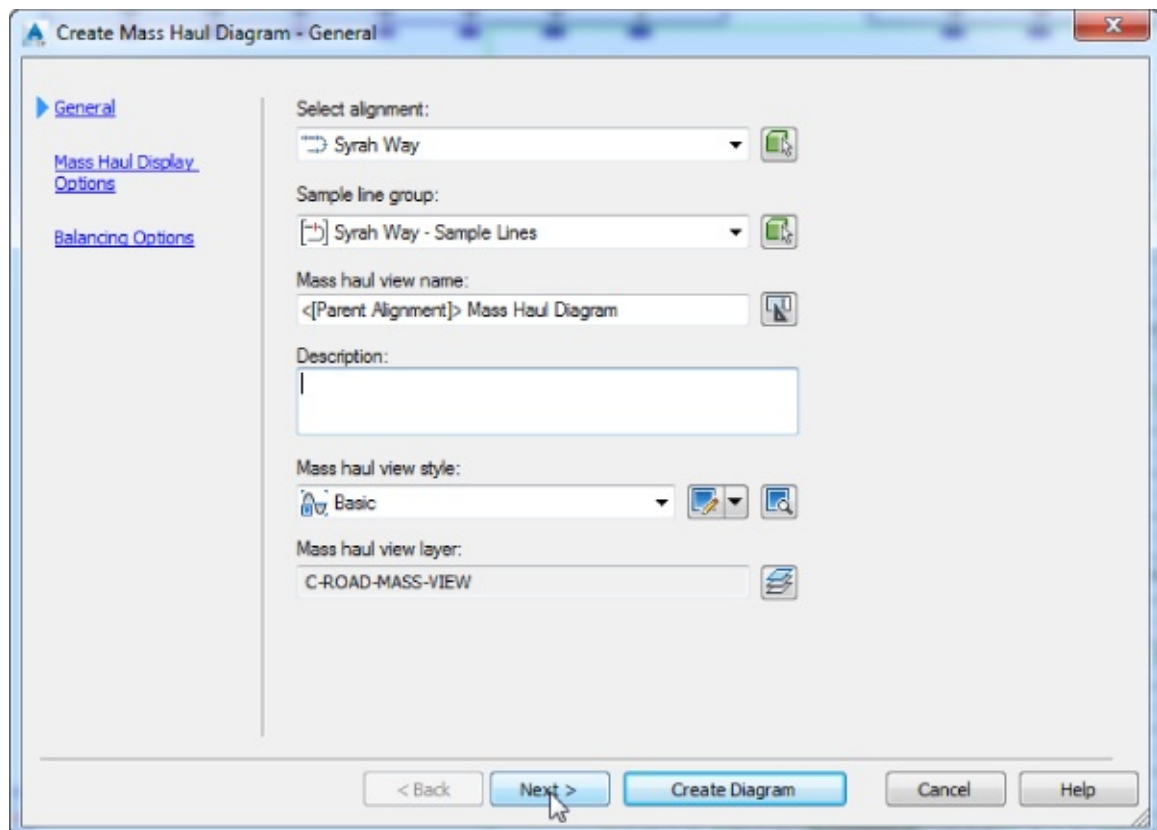

Figure 12.27 The General options of the Create Mass Haul Diagram Wizard
- c. Leave all other options at their defaults, as shown in Figure 12.27, and click Next.